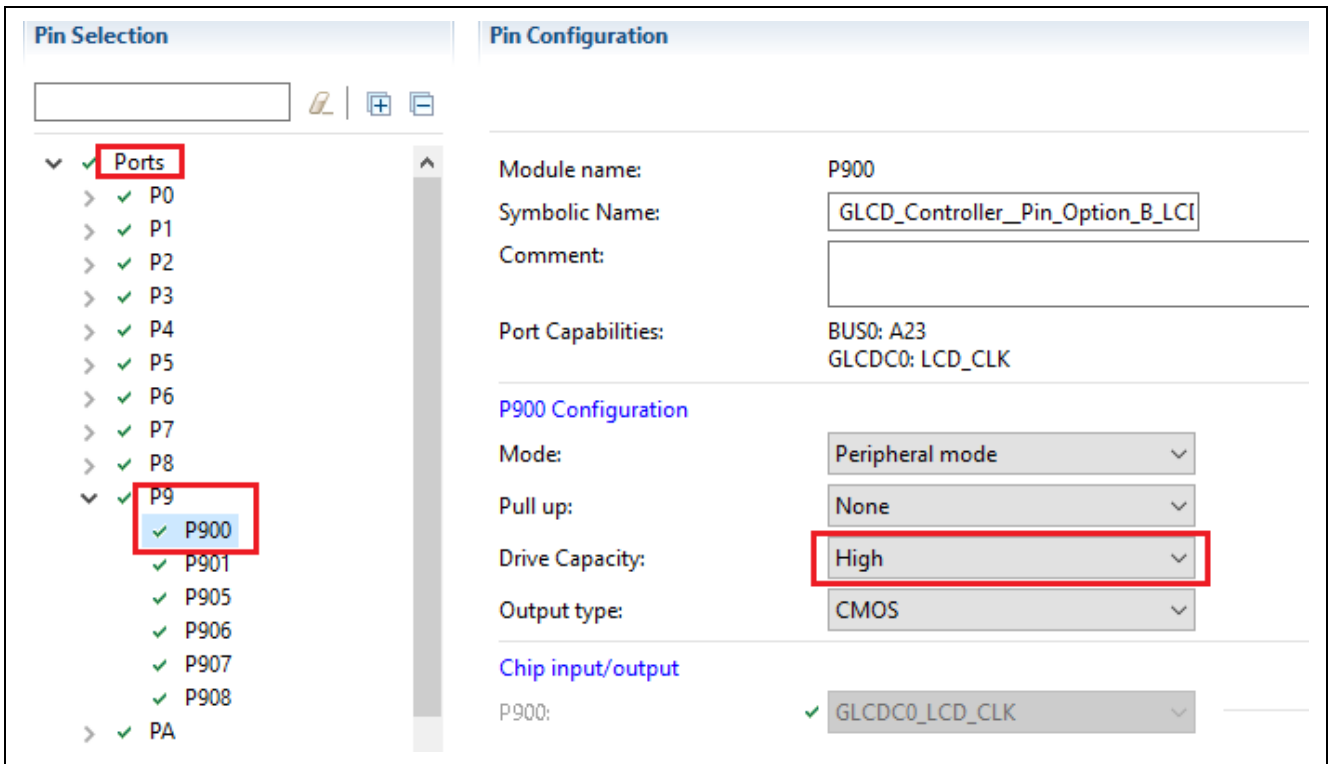

Figure 54. Example of Drive Capability configuration for GLCDC
41. Configure **Drive Capacity** to **High** for all pins related to **GLCD_Controller_Pin_Option_B** as shown in Figure 54.
A. You can confirm which pins would be used for **GLCD_Controller_Pin_Option_B** by referring to Figure 54. through Figure 56.